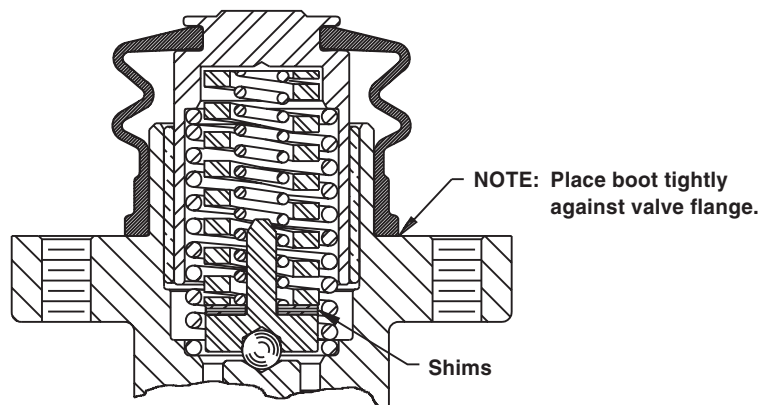

FIGURE 2
IF EXCESSIVE PAINT CHIPS ARE PRESENT IN THE SPRING CAVITY, REMOVE SPRINGS AND CLEAN THE COMPONENTS ACCORDINGLY. FLUSH SPRING CAVITY WITH MINERAL BASE SOLVENT AND WIPE DRY. LIGHTLY LUBRICATE SPRINGS AND OTHER COMPONENTS WITH MINERAL BASE HYDRAULIC OIL. SPRINGS AND OTHER COMPONENTS REMOVED MUST BE REPLACED IN THE PROPER ORDER (See Figure 2).
1. Clean and lubricate new piston/boot assembly (4) with clean mineral base hydraulic oil.
2. Carefully install new piston/boot assembly (4) on valve assembly (5). **NOTE: Place boot tightly against valve flange (See Figure 2).**
3. Attach valve assembly to base and pedal assembly by raising valve assembly to base while guiding boot/piston assembly (4) through pilot hole in base. **NOTE: Be careful not to tear or damage boot.**
4. Install cap screws (1) and washers (2). Torque cap screws 24.4 - 29.8 N-m (18 - 22 lb-ft).